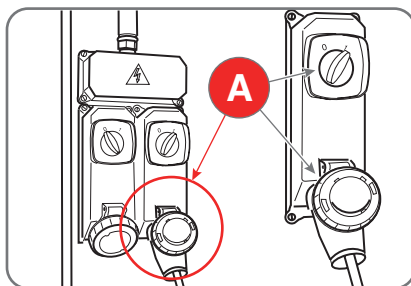

Fig. 1.15
- connect the machine to its own electrical connection (A - Fig.1.15) equipped with a special differential circuit breaker with 30mA sensitivity;